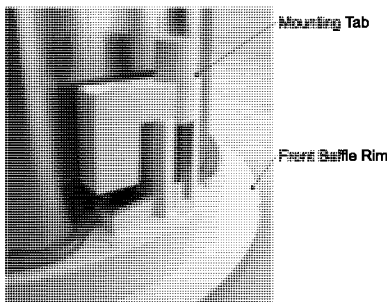

Figure 10: Tighten the Mounting Tabs
10. Tighten the mounting tabs by turning the screw clockwise (see Figure 10). When tightening the mounting tabs, the tabs automatically turn outward, thus clamping the speaker to the wall from its rear side.